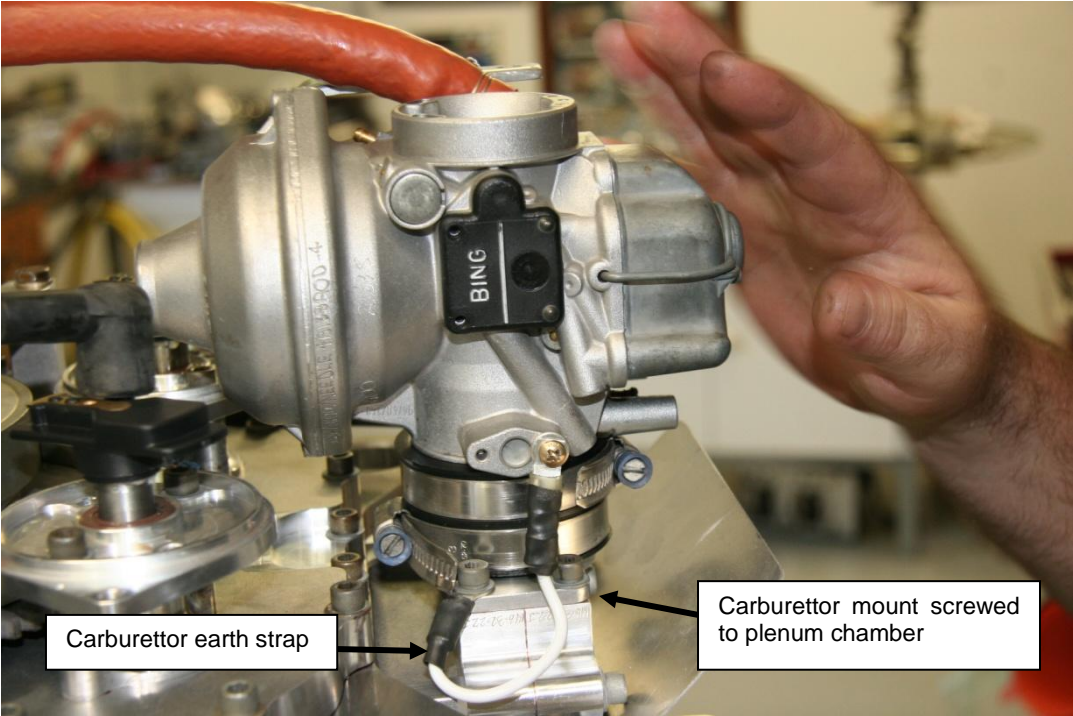

Figure 187 – Fitting Carburettor
- The carburettor mount is sealed to the rear face of the plenum chamber using Loctite 515 and attached using cap screws as shown in Figure 187. Apply Loctite 243 to these screws.